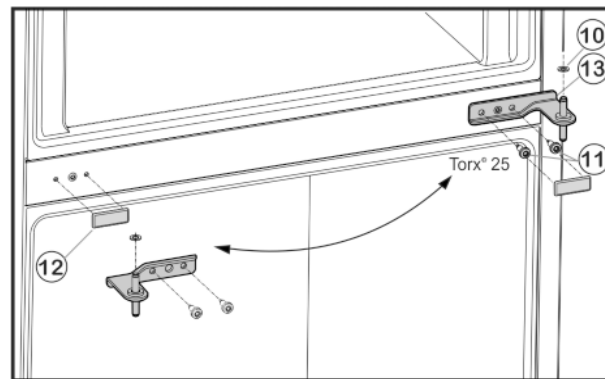

Fig. 6
- Unscrew the fastening screws Fig. 6 (11) (2 x Torx® 25) and pull the centre bearing block out of the lower door.
- Remove plastic washer Fig. 6 (10) .
- Remove the cover Fig. 6 (12) carefully.
- Re-install the cover Fig. 6 (12) on the opposite side.
- Insert the centre bearing block Fig. 6 (13) turned through 180° into the lower door and fasten firmly (**with 4 Nm**) to the new hinge side with the fastening screws Fig. 6 (11) (2 x Torx® 25).
- Refit plastic washer Fig. 6 (10).
- Set the upper door down on the centre bearing block Fig. 6 (13).